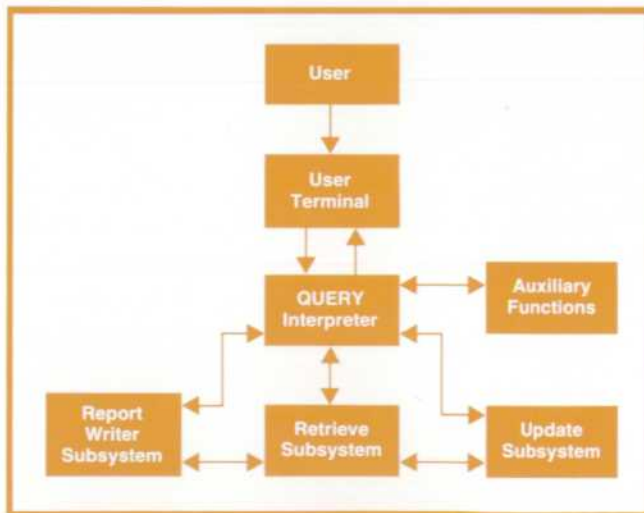

Fig. 6. QUERY/3000 functions make it easy for the non-specialist to retrieve and update data in IMAGE/3000 data bases.
QUERY/3000 is composed of six functions (see Fig. 6): QUERY language (QL), QUERY interpreter, retrieve subsystem, report writer subsystem, update subsystem, and auxiliary functions.